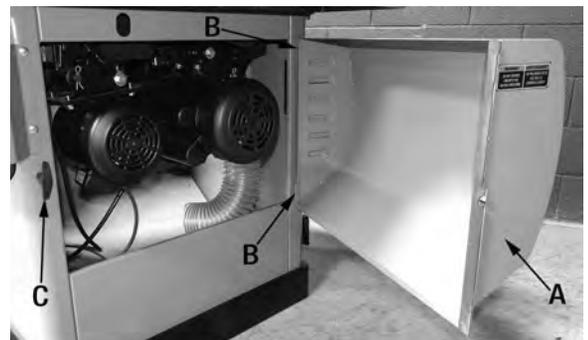

FIGURE 6
1. To prevent air born saw dust, the motor access door (A) Fig.6 should be installed to the cabinet. Slide the motor access door hinges (B) into the hinge pins in the cabinet.
2. Pull out the door latch handle (C), then swing and close the access door and secure it closed by releasing the door latch handle over the notch in the motor access door.